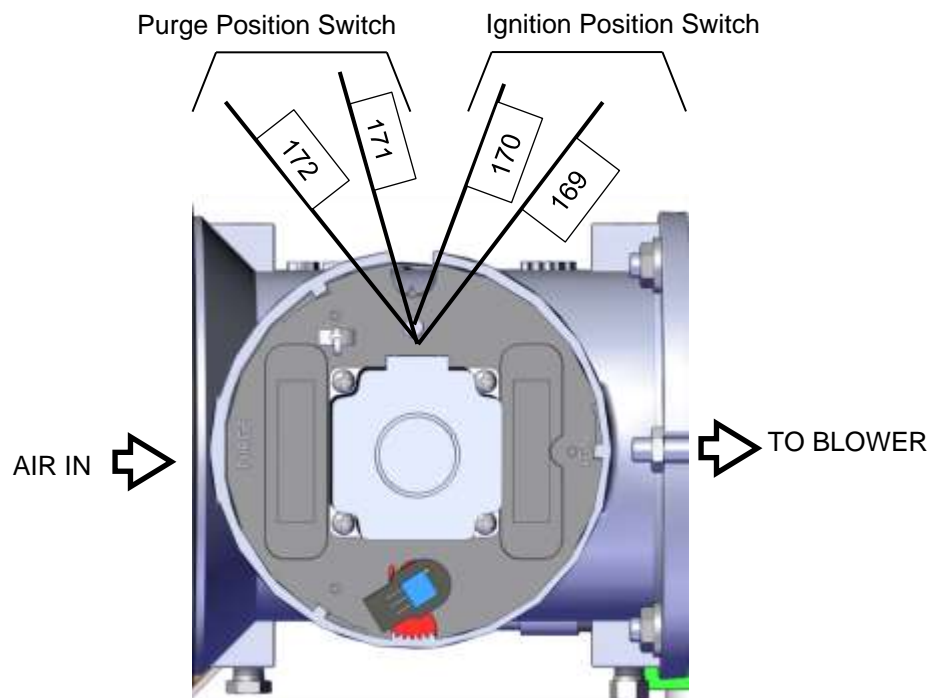

Figure 5-11a: Air/Fuel Purge and Ignition Locations – BMK750/1000
5. Remove one of the two wires (#171 or #172) from the Purge switch (Figure 5-11a – 5-11c).
5. Remove one of the two wires (#169 or #170) from the Ignition switch (see Figure 5-11a – 5-11c, above).